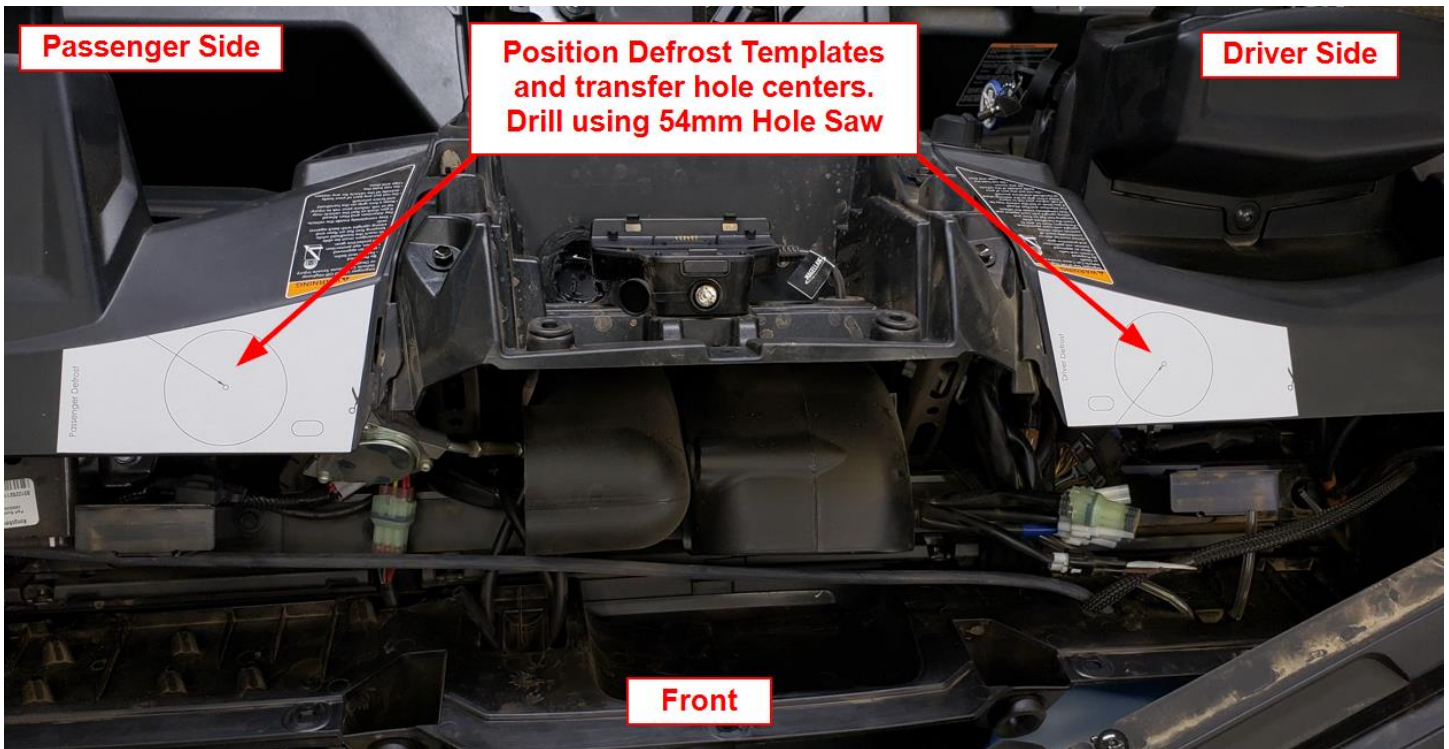
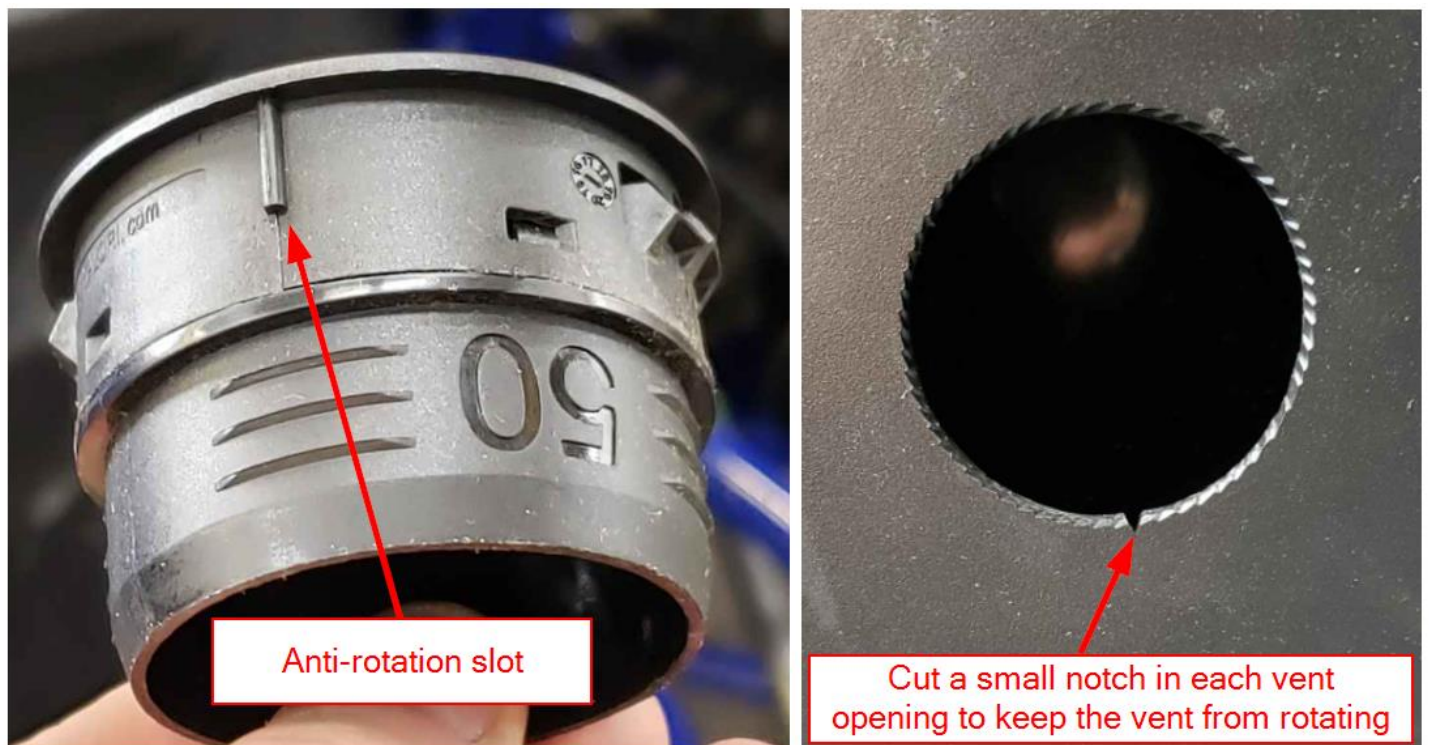

Figure 11
Figure 12
- a. Cut out the Defrost Vent Templates and position them on the top dash as shown in Figure 11. Mark the hole centers, **VERIFY NOTHING IS BEHIND THE LOCATION** and drill using the 54mm Hole Saw included in the kit. Debur as necessary. **Installation Tip: After cutting the 2" vent holes, use a razor blade to cut a small "V" shaped notch anywhere along the hole. Each 2" Vent has an anti-rotation notch molded into it, fit the notch into the 'V' groove for easier install,** as shown in Figure 12.